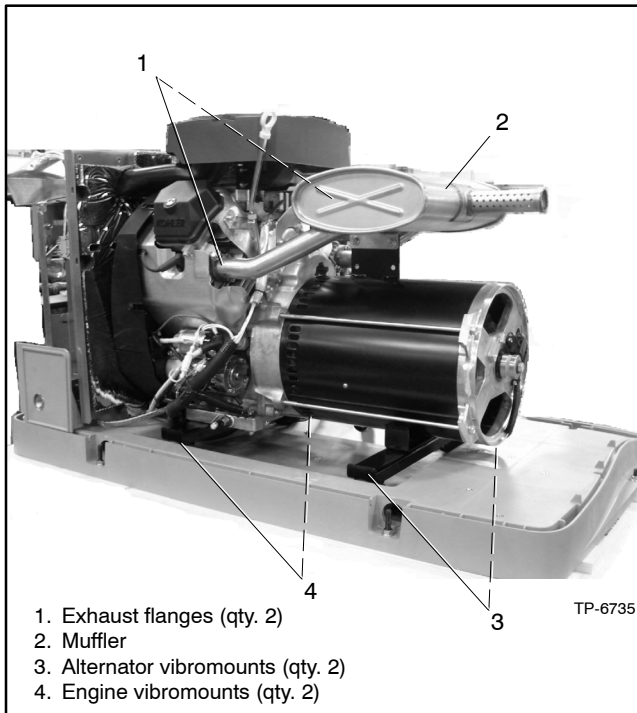

Figure 6-27 Exhaust System
8. Install the exhaust system. See Figure 6-27.